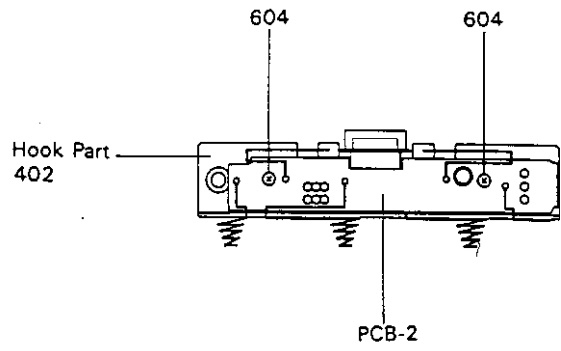
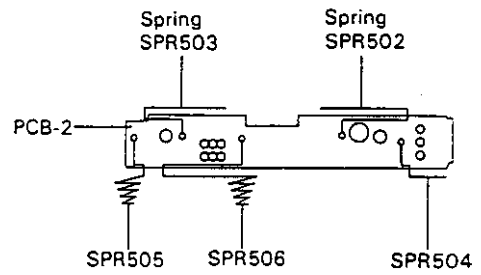

Fig. 7
Fig. 8
3. Remove the two screws(604)fixing the PCB-2. Fig. 7
4. Remove the PCB-2 from the Hook Part (402). Fig. 7, Fig. 8